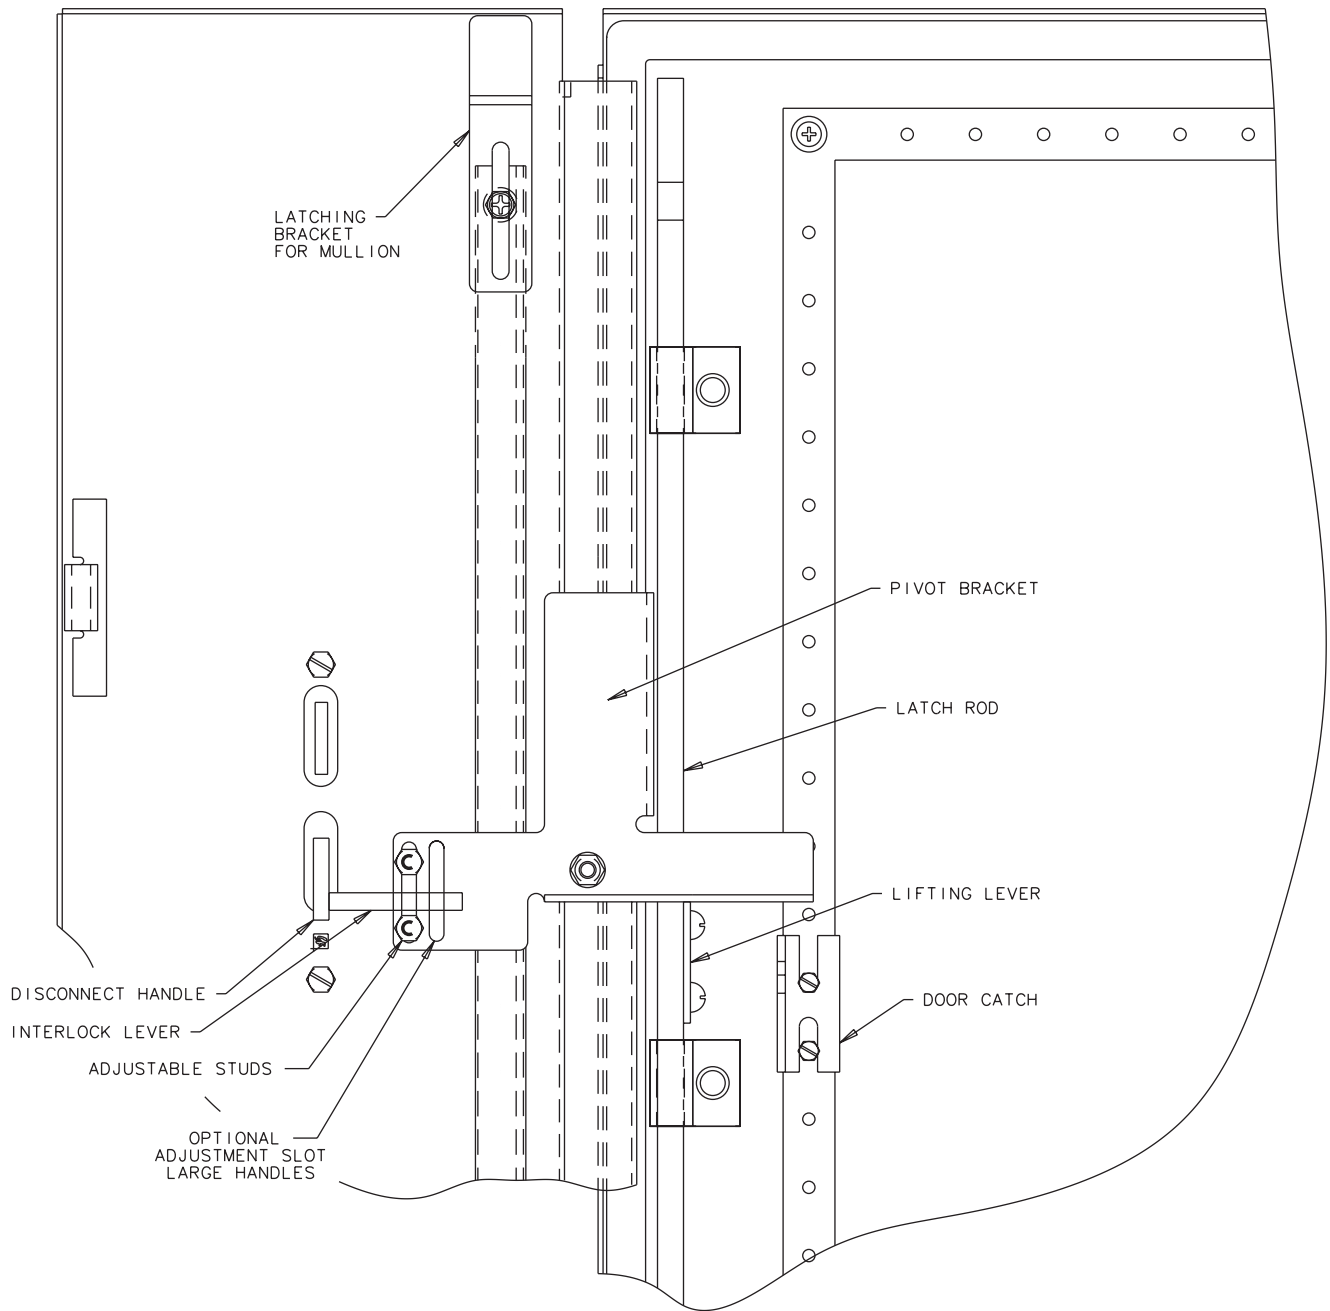

Figure 1
Step 2 – Install the disconnect operating handle on disconnect mullion. Remove the pivot bracket shown in Figure 1. Follow disconnect manufacturers instructions to install and assemble operating handle.
Step 3 – Position the pivot bracket (removed in step 2) so that the interlock lever (on the disconnect operating handle) fits between the two adjustable studs. See Figure 1. Secure pivot bracket to disconnect mullion with shoulder collar and hex nut.
Step 4 – Close and latch the disconnect mullion to the PROLINE® frame. Sliding latches are provided at the top and bottom of the mullion. See Figure 1.
a. Adjust studs on pivot bracket so pivot bracket is horizontal when disconnect operating handle is in the “OFF” (open) position. The interlock lever moves upward when the disconnect handle is operated to the “ON” (closed) position. This motion rotates the pivot bracket so it will engage with the door catch on the disconnect door. Adjust door catch up or down if necessary to provide proper engagement. See Figure 1.
b. Adjust lifting lever (mounted on latch rod). See Figure 1. The lifting lever moves upward as disconnect door is being latched. The lifting lever prevents the pivot bracket from rotating which releases the interlock lever on the disconnect operating handle. This action allows the disconnect operating handle to be operated to the “ON” (closed) position only when disconnect door latching is engaged to the frame.
NOTE: Proper adjustment will allow the operating handle to be placed on the “ON” position when the door is closed and will prevent the door from opening when the operating handle is in the “ON” position. If the door can be opened with the operating handle in the “ON” position, move the door catch up. (See Figure 1) If the operating handle cannot be pushed up into the “ON” position (with door closed), move the defeater lever on the latch door up slightly. See Figure 1.